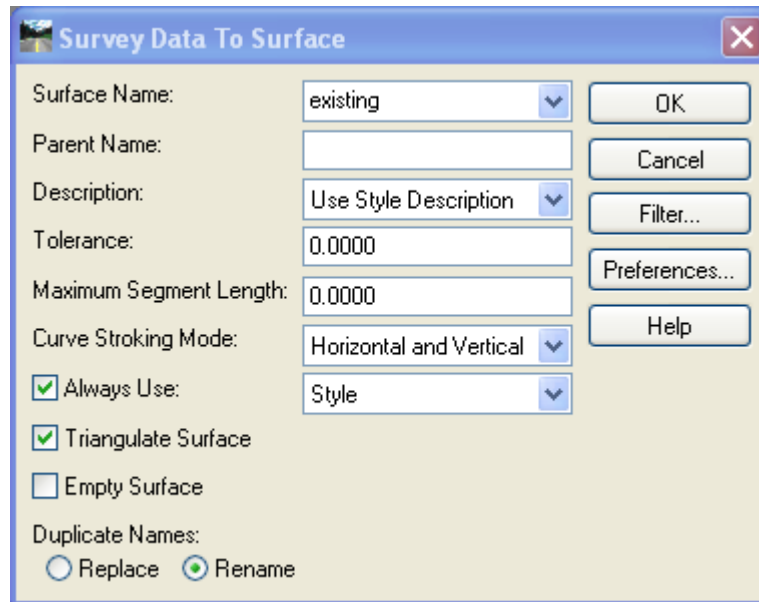

Figure 4-2 InRoads Survey Data To Surface Dialog Box
- A. From the InRoads main menu bar select **Survey > Survey Data to Surface**. For Surface Name input **existing**. Adjust the setting to match Figure 4-2 and click **OK**.